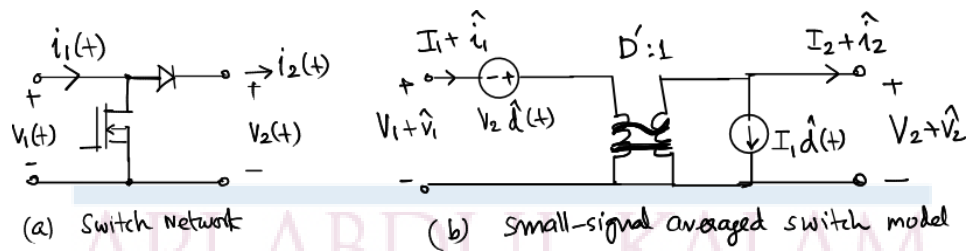

Figure 1.
- 11 (a) A boost converter is operating with an input dc voltage of 100 V. If the operating duty ratio is 0.4 and the operating efficiency is 90%, evaluate the output voltage. (4)
- (b) Derive the steady-state equivalent circuit model of a buck-boost converter operating in CCM, assuming the switch has an on-state resistance of R_{on} . Neglect all other losses. (10)
- 12 (a) A 100 W output buck converter is having a total power loss of 15 W. If the input voltage is 18 V, evaluate the operating duty ratio if the output voltage is 10 V. (4)
- (b) Develop the steady-state equivalent circuit model of a buck converter operating in CCM, assuming the switch has an on-state voltage drop of V_T , and the diode has an on-state drop of V_D . Neglect all other losses. (10)
- 13 (a) Explain the step-by-step procedure to develop the averaged circuit model of dc-dc converters. (4)
- (b) A switch network and its small-signal averaged model is shown in the figure 1 below: Plug this model into the ideal boost converter circuit in place of the switch network appropriately and transform into the canonical model. (10)